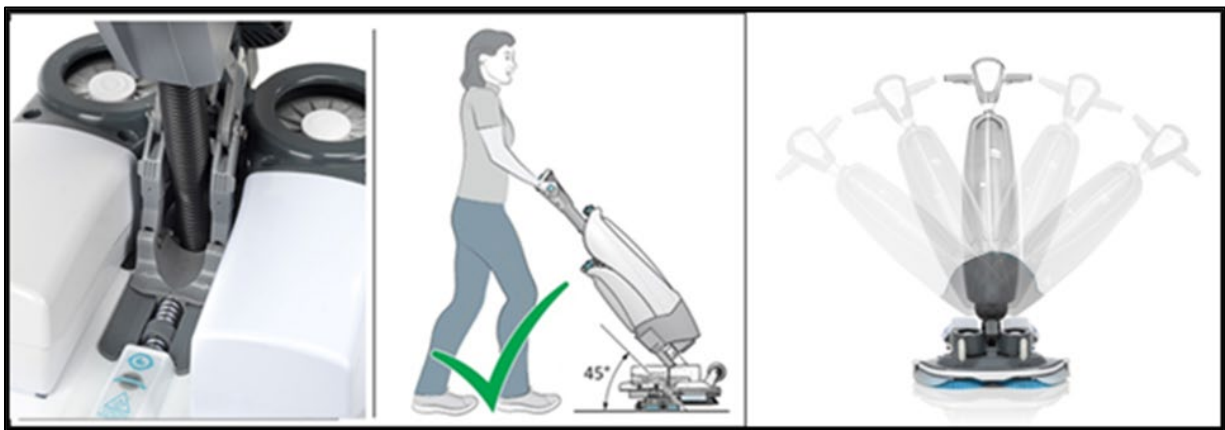

Figure 23b
1. Parking with the i-balancer. (figure 23b)